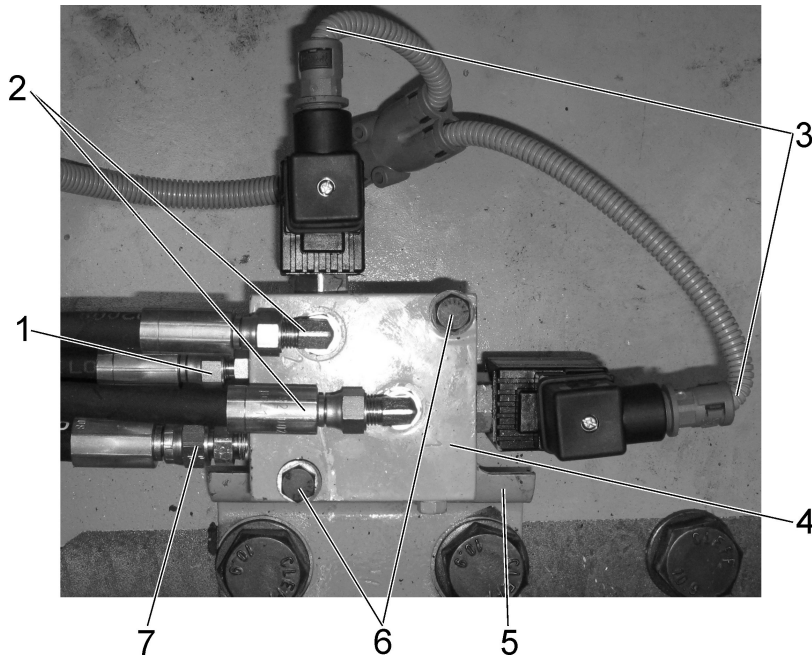

Fig. 7C.90. Gear Shifting Valve Disconnect Points
32. REMOVAL (Refer to Fig. 7C.90)